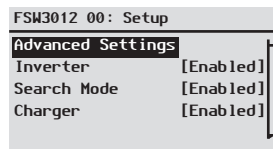

Figure 24 Selecting Advanced Settings From the Device Setup Screen
1. On the **FSW3012 00: Setup** screen (Figure 24), press the **Enter**, Up arrow, Down arrow buttons simultaneously to make **Advanced Settings** appear in the list.